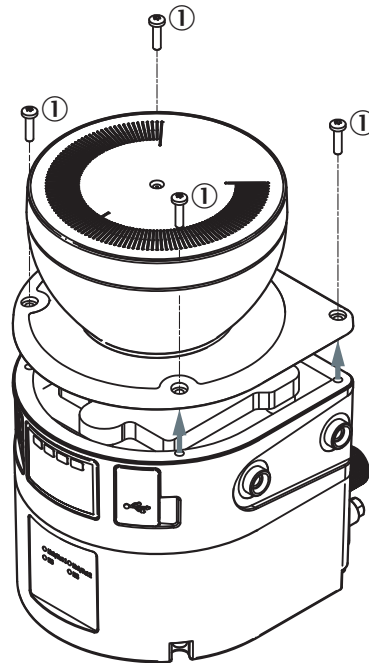

Figure 71: Fixing screws for the optics cover
13. Screw in new fixing screws, see figure 71, page 112.